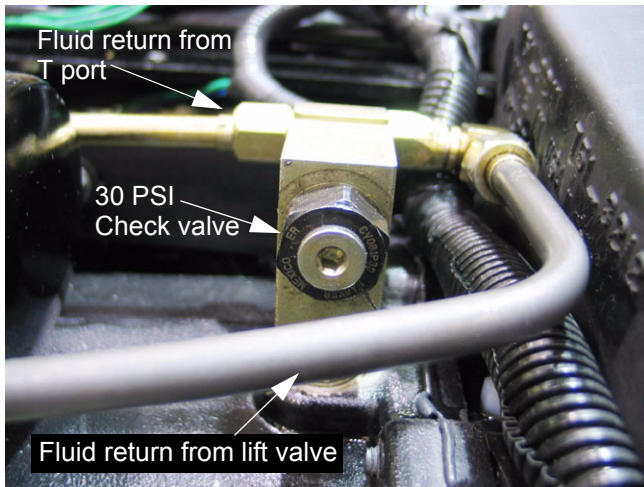

Figure 5.19
- 5.19. The return circuit check valve maintains a minimum pressure given sufficient flow. It does not control the maximum pressure in the system: it is a check valve, not a relief valve. See Figure 5.19.